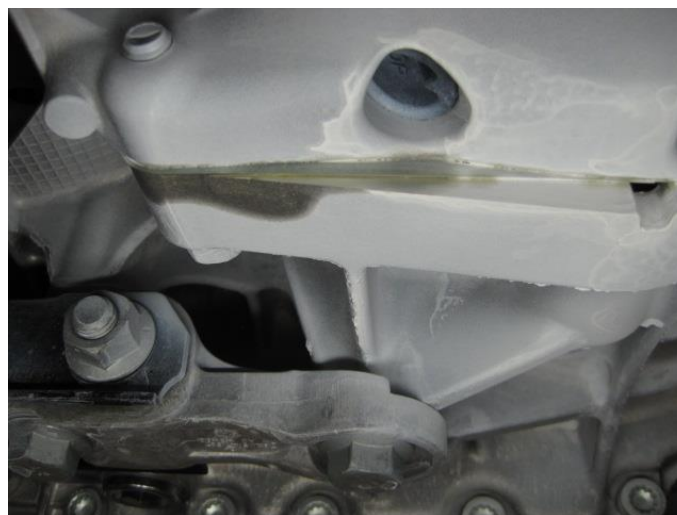

Figure 1. Oil leaking from the bellhousing.
- The customer concern can be duplicated. The oil leak can be traced to the transmission at the bellhousing (Figure 1) and the input shaft (Figure 2).